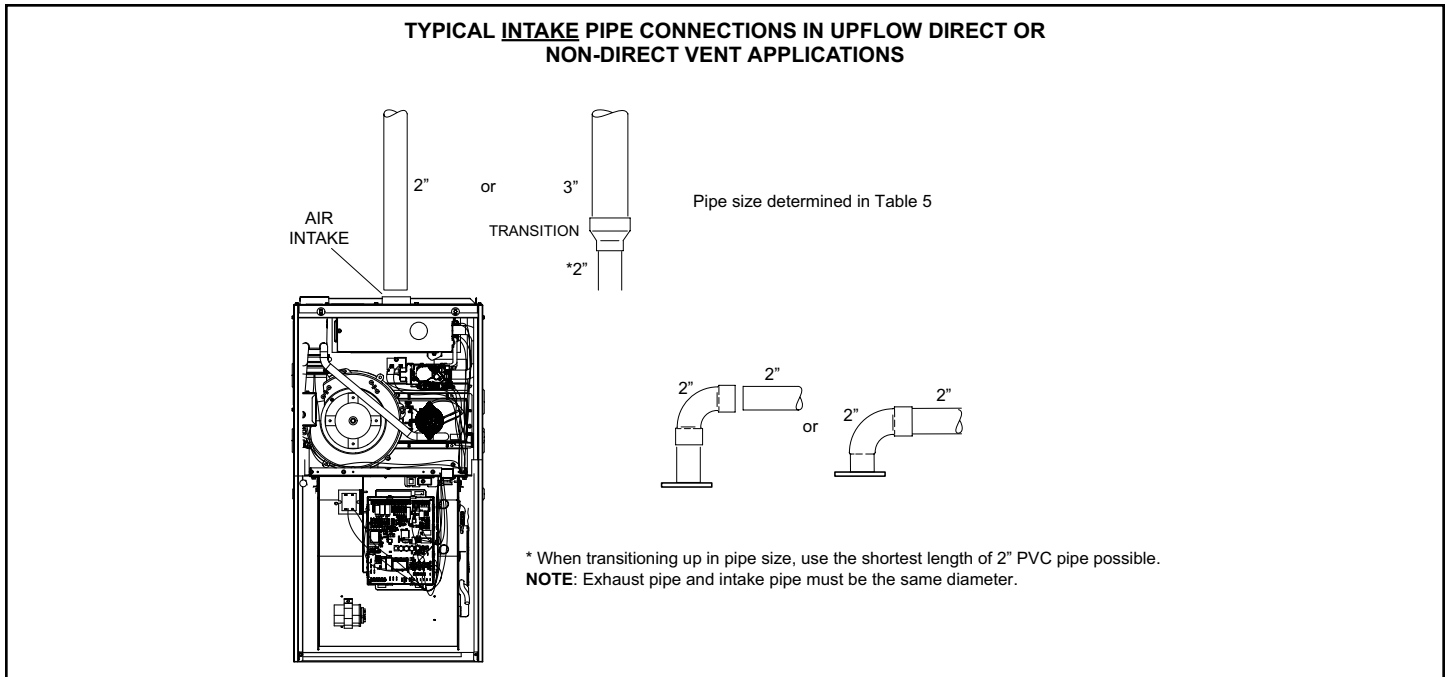
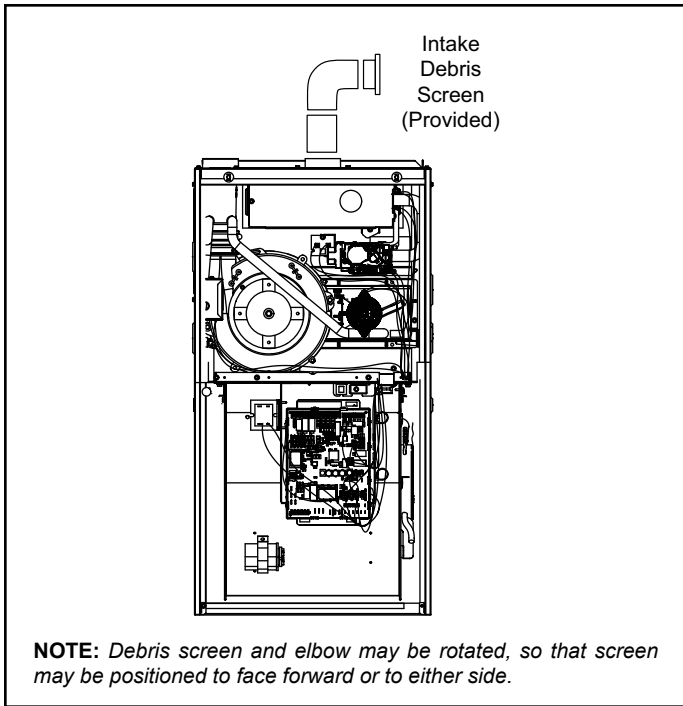
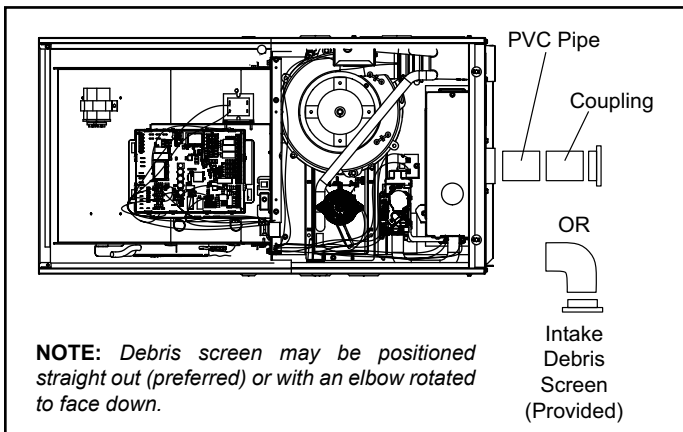

Figure 27. Typical Air Intake Pipe Connections in Upflow Direct Vent Applications
Figure 29. Typical Air Intake Pipe Connections Upflow Non-Direct Vent Applications
Figure 30. Typical Air Intake Pipe Connections Horizontal Non-Direct Vent Applications (Horizontal Right-Hand Air Discharge Application Shown)
(Figure 27 through Figure 30)
1. Use field-provided materials and the factory-provided air intake screen to route the intake piping as shown in Figure 29 or Figure 30. Maintain a minimum clearance of 3" (76 mm) around the air intake opening. The air intake opening (with the protective screen) should always be directed forward or to either side in the upflow position, and either straight out or downward in the horizontal position.